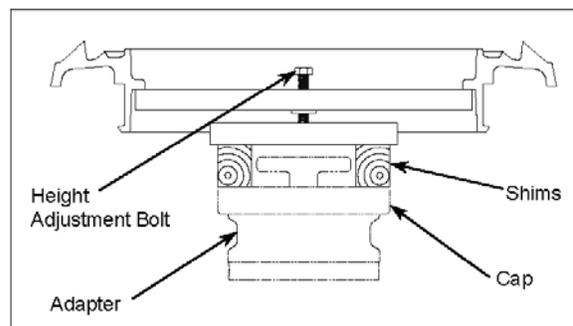

Figure 3 – Standard Cover Model Height Adjustment
**Step 8:** (See Figure 3 & 4)
Install adjusting system beneath tabs on mounting ring. See Figure 3 for standard cover models. See Figure 4 for sealable cover models. Add shims as needed and adjust with screw. (Shims must be cut to size for sealable cover models.) The height can be increased up to 1" (2.5cm).